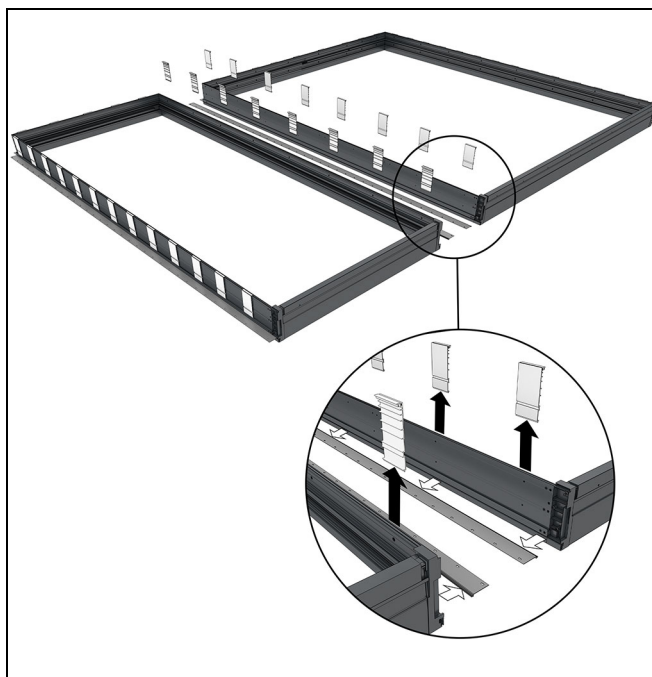

Figure 11
2. If not done from the factory, remove all shim blocks and nail fin on the side of frames that will be mulled. See Figure 11.